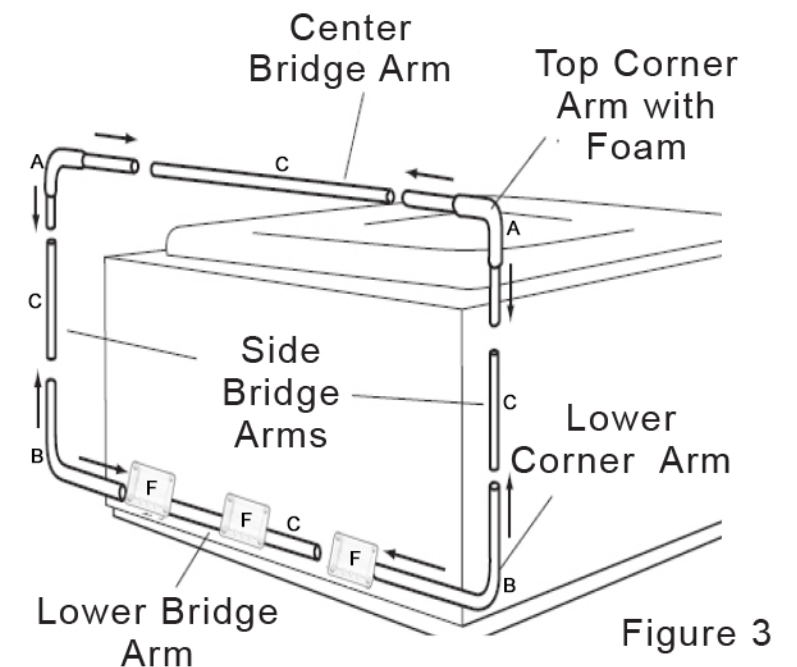

Figure 3
3 Insert the long end of the **Lower Corner Arms (B)** into the **Mounting Brackets** to the back side of the spa (see Figure 3). Next, insert the **Center Bridge Arm (C)** into the **Top Corner Arms (A)**. Then join the **Top Corner Arm** sections to the **Lower Corner Arm** sections, sliding the **Side Bridge Arms (C)** into the short portion of the **Corner Arms**.